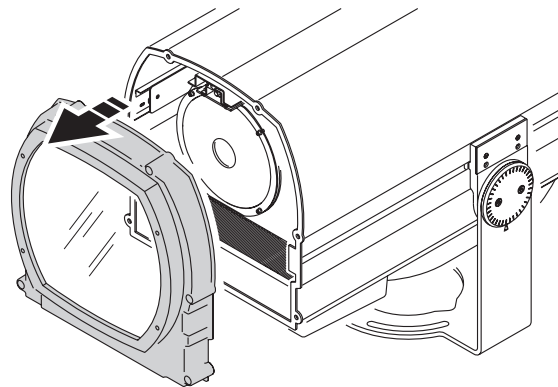

Figure 18: Removing the front cover and seal
- See Figure 18. Loosen the six Allen head screws holding the front cover and remove the cover and its silicone seal. Avoid damaging the seal during removal. If you do not remove the seal, you may damage it and will make access more difficult.